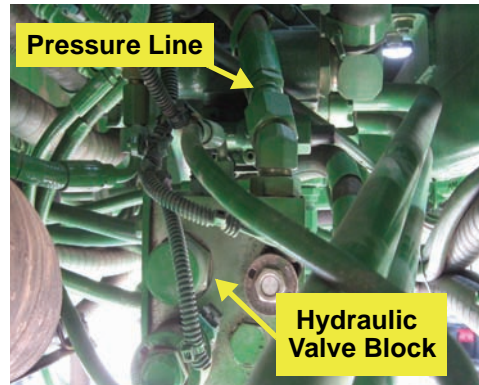
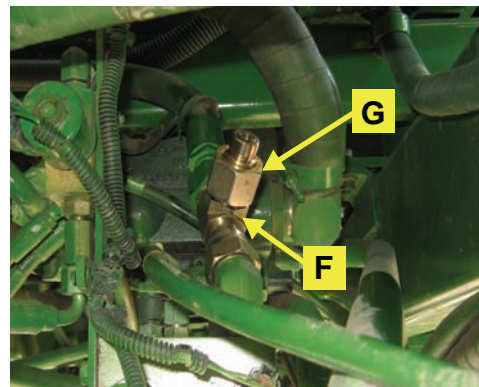

Figure 3b: Pressure location
Figure 3c: Installed pressure fittings
b. Locate the pressure line on top of the hydraulic valve block. Install the run-tee adapter fitting (F) between the rubber hose and hydraulic fitting. (Figure 3b & Figure 3c)
c. Install the reducer fitting (G) to the branch of the run-tee fitting (F). (Figure 3c)